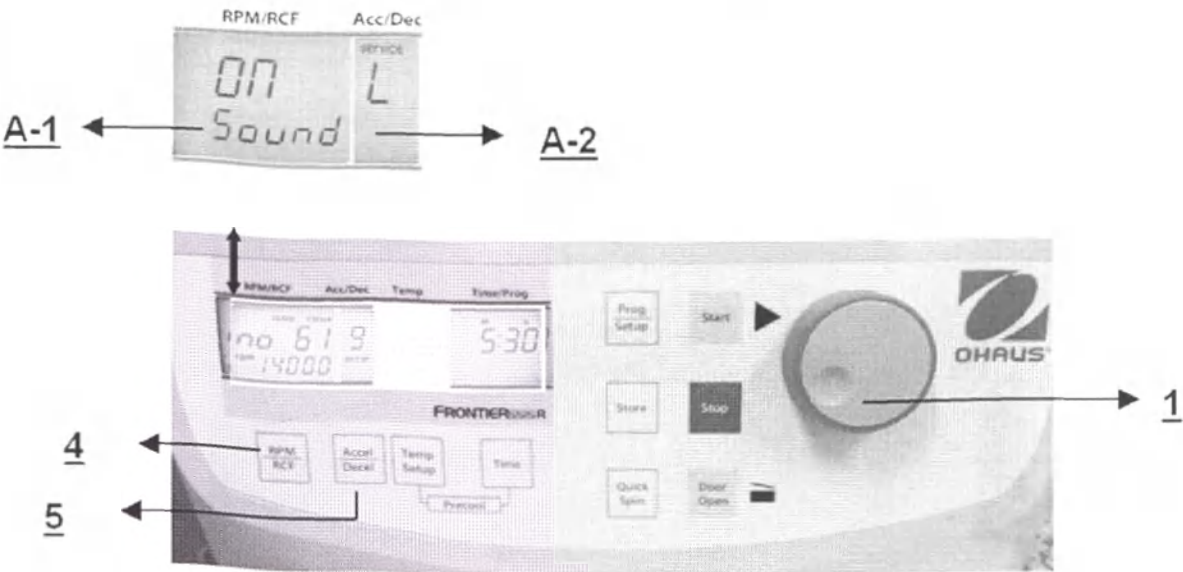

Fig. 33
pressing the key **RPM | RCF** (4), the word **On** starts blinking, and turning the dial (1), the acoustic signal (see Fig. 33) can be switched on.